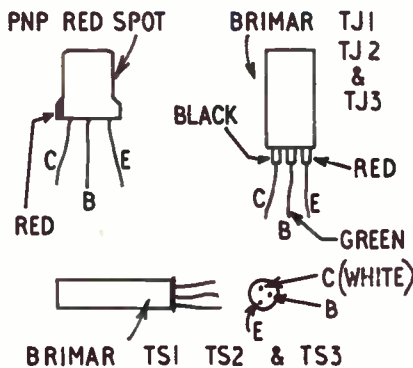

Fig. 4—Transistor connections
The transistors have wire leads, which should be left full length. (C) indicates the Collector, (B) indicates the Base, and (E) indicates the Emitter. With Red Spot transistors, red shows the Collector, the Base and Emitter contacts coming as in Fig. 4. But with Brimar TJ1, TJ2 or TJ3 transistors, red indicates Emitter,
with Green for Base and Black for Collector. The TS1, TS2 and TS3 types have white to show the Collector, Base and Emitter leads coming as also shown in Fig. 4. For the present circuit, the TS2 type can be used, or the Red Spot, or many other kinds.